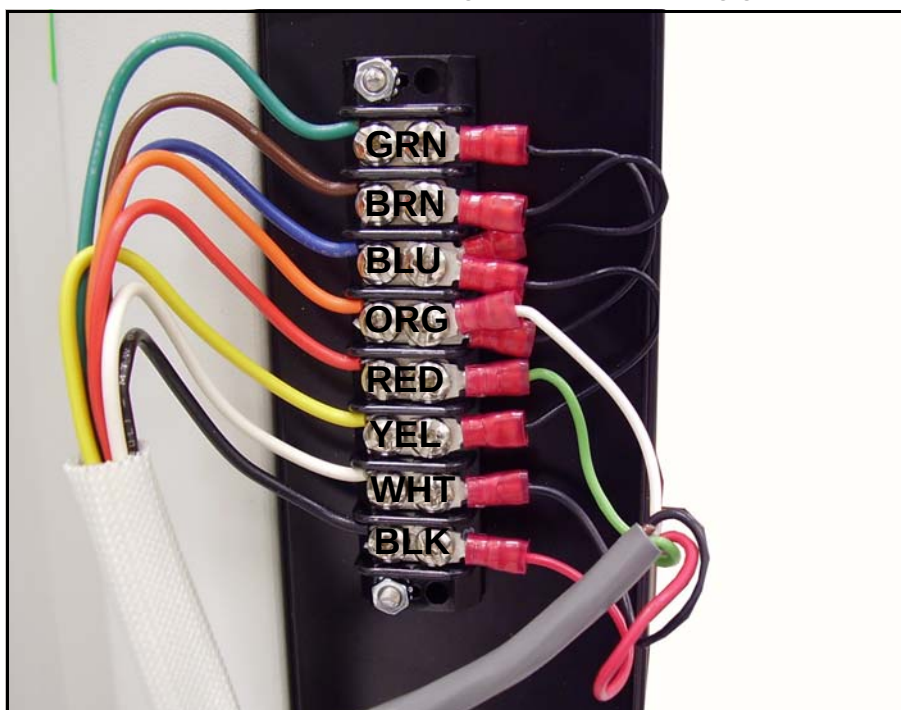

Figure 6-24. PBL Wiring Diagram
- 12** Reverse steps to reassemble. Use Figure 6-24 as a wiring guide.